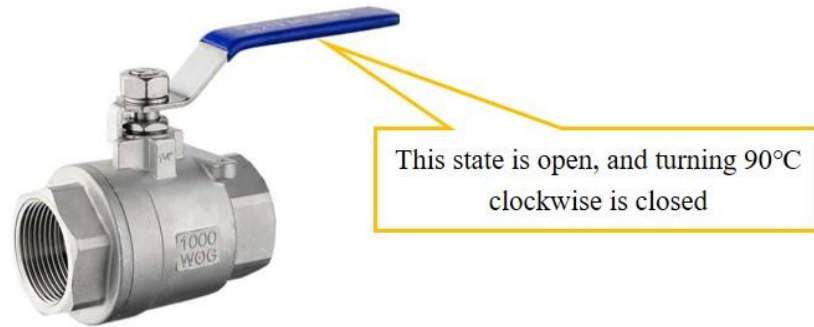

Figure 7.7 Schematic diagram of valve opening and closing.
- b. Close the filling/drain ball valve V104, the expansion tank front valve V105, and the safety valve front valve V410, as shown in Figure 7.7.